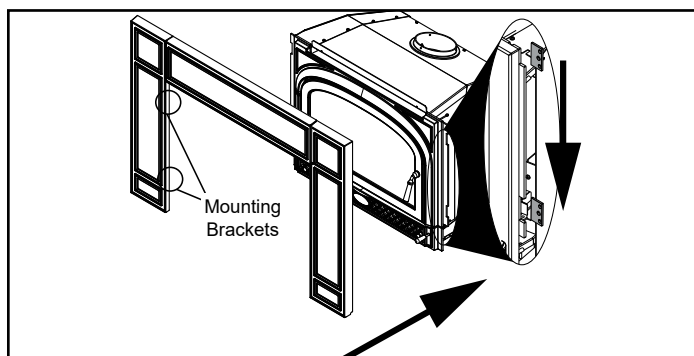

Figure 5.12
1. Slide cast trim assembly over the top of the appliance and set in position by guiding the right and left side bracket through the slots on the side of the appliance. Gently drop the assembly down into place (**Figure 5.12**).